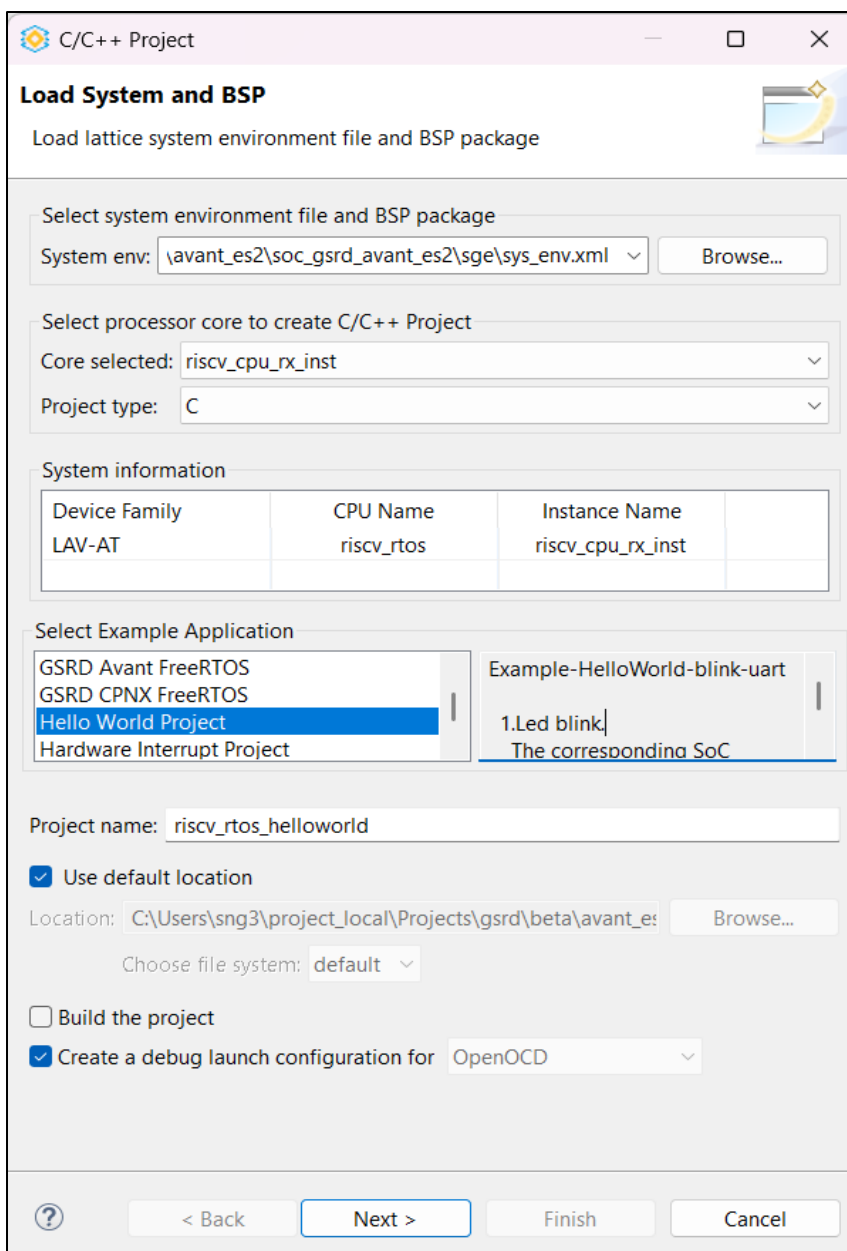

Figure 7.18. Hello World C/C++ Selection
4. In C/C++ Project window, select the generated `sys_env.xml` file from previous GHRD SoC section. In the *Select Example Application* section, select the **Hello World Project** and provide a name for the project as shown in Figure 7.18.